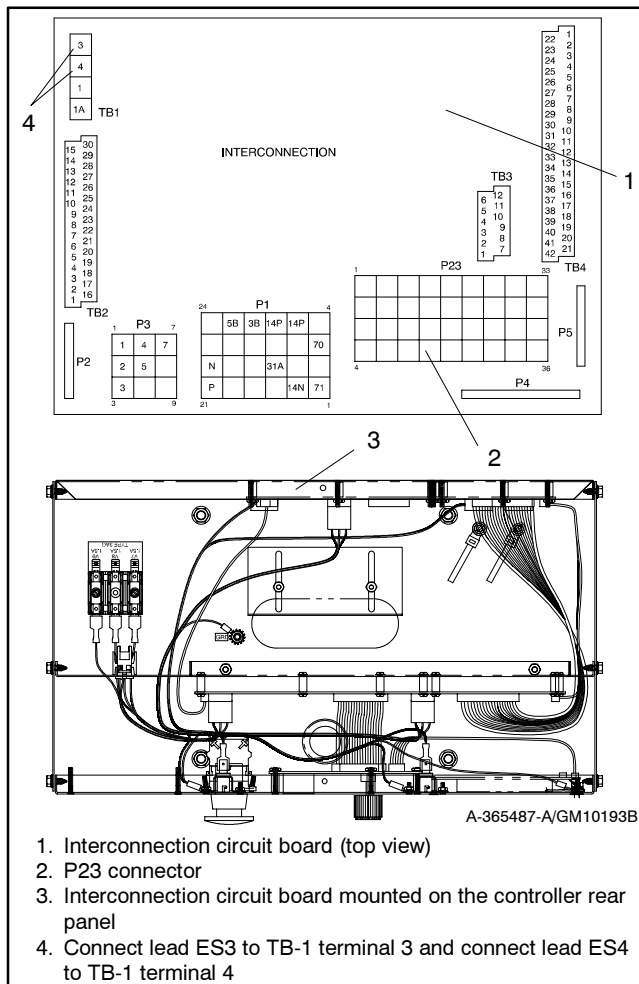

Figure 6 Attaching Wiring Connection Harness to Controller Circuit Board
- 3.3 Plug the wiring harness connector into the interconnection circuit board's P23 connector. Connect lead ES3 to TB-1 terminal 3 and connect lead ES4 to TB-1 terminal 4. See Figure 6. If access to the interconnection circuit board is difficult, remove the two rear controller panel top screws and loosen the bottom screws to swing the rear controller panel down.